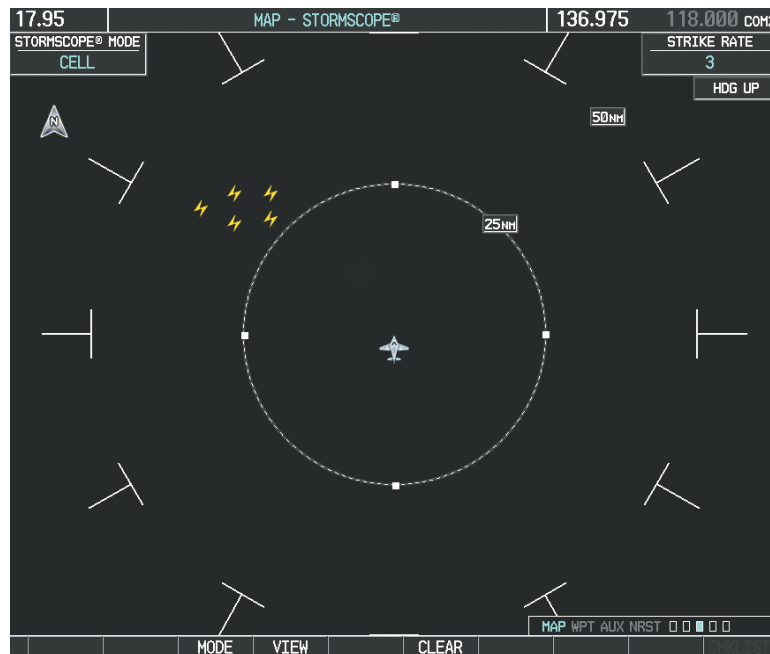

Figure 6-59 Stormscope Page
- 2) Turn the small **FMS** Knob to select the Stormscope Page (Figure 6-59).